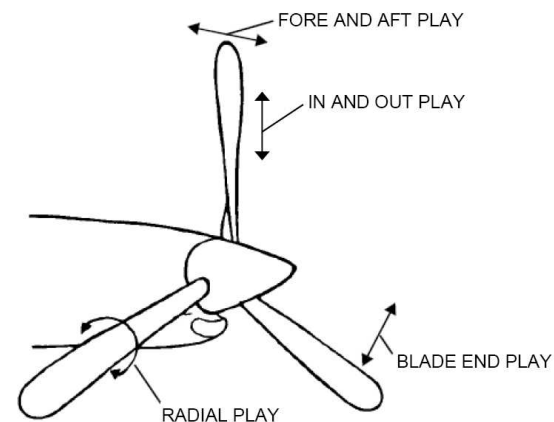

Figure 6-3 Blade play
- a) Check the blade for looseness per figure 6-3.